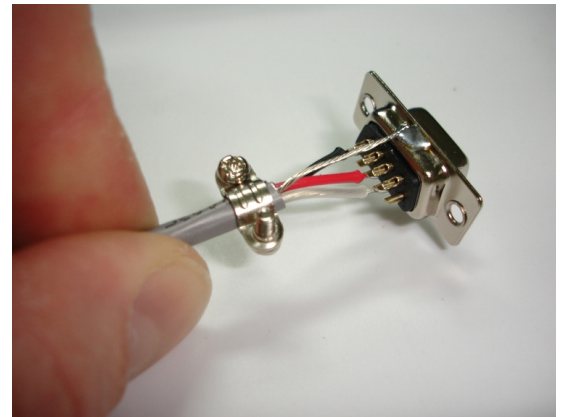

Figure 4
5. ***Insert the white wire into the pin 2 solder cup of the 9 pin d-sub connector and solder. Insert the red wire into the pin 3 solder cup of the 9 pin d-sub connector and solder. Insert the black wire into the pin 5 solder cup of the 9 pin d-sub connector and solder. Solder the end of the shield drain wire to the metal case of the d-sub connector, just behind the metal screw plate. See figure 4.